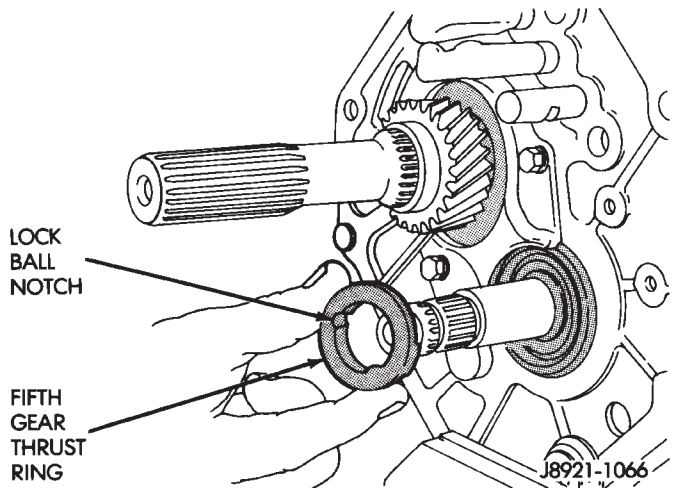

Fig. 36 Fifth Gear Thrust Ring Removal
(17) Remove counter fifth gear thrust ring (Fig. 36).